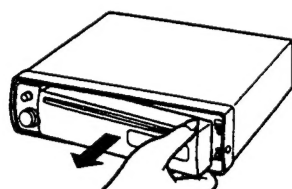

Fig. 5
- To remove the front panel, pull its right-hand side toward you. (Fig. 5)